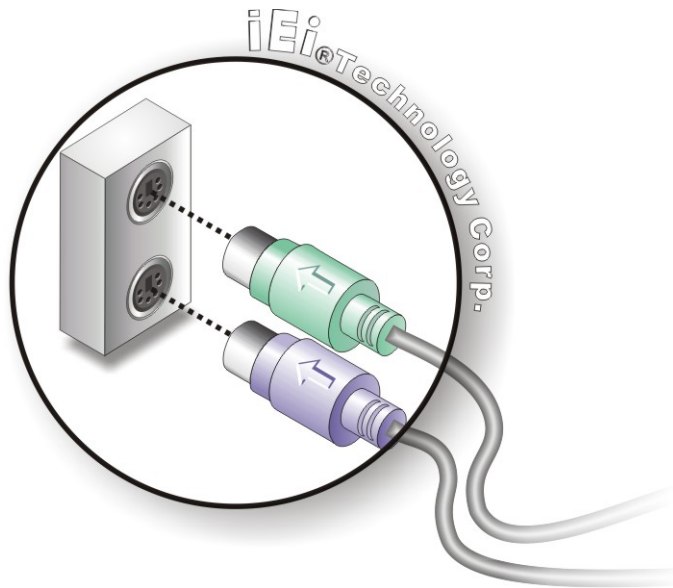

Figure 4-17: PS/2 Keyboard/Mouse Connector
Step 2: **Insert the keyboard/mouse connector.** Insert a PS/2 keyboard or mouse connector into the appropriate PS/2 connector on the external peripheral interface connector. See Figure 4-17.